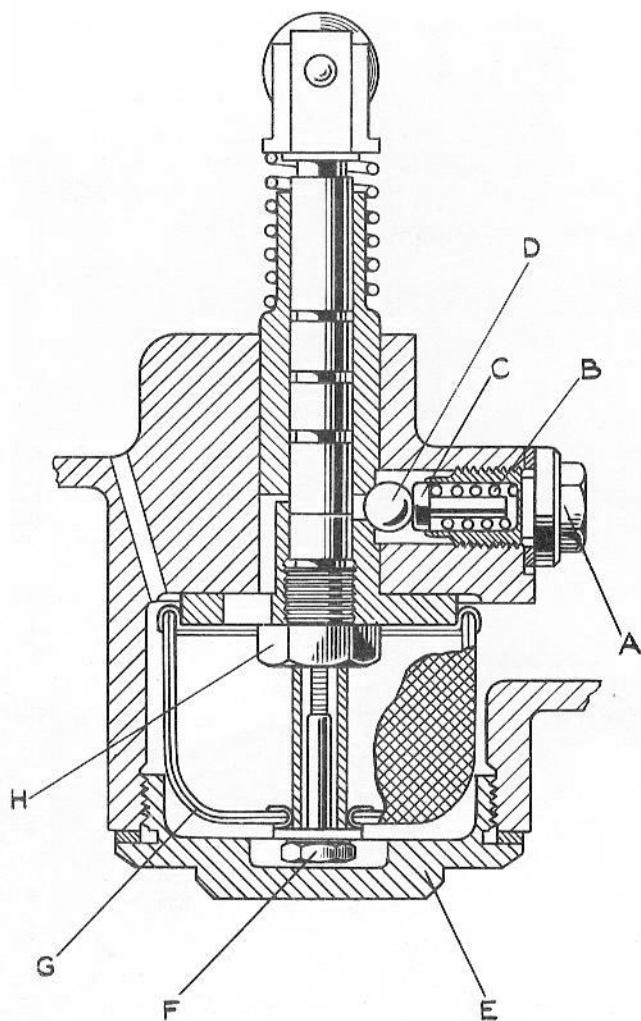

Fig. 81. Section view of oil pump showing the non-return valve
Remove the drain plug (E) Fig. 81 and allow the
The pump valve plug 'A' Fig. 81 can now be removed with a box spanner followed by the spring, plunger and ball.
(Figs. 81, 82 & 83.)